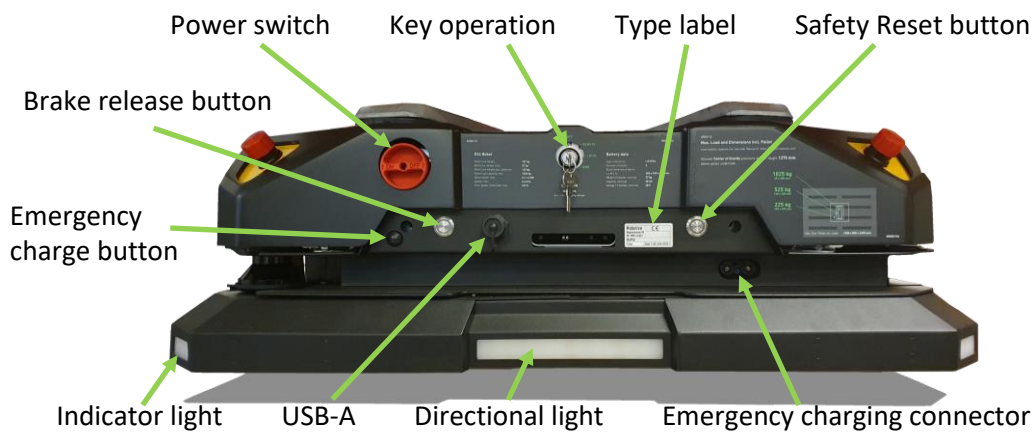
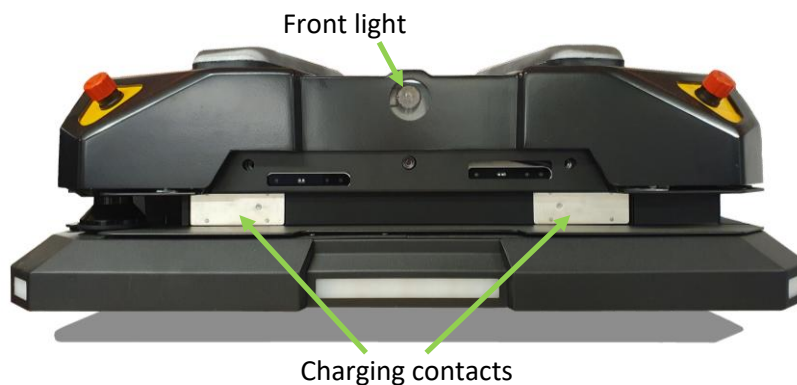

Figure 6 GoPal E24 rear view
Figure 7 GoPal E24 front view
The Safety Reset button (see *Figure 6*) is located at the rear of GoPal. If the mechanical bumper or any of the emergency stop buttons have been triggered, this button must be pressed to reset the safety system of the robot. After holding the Safety Reset button for a minimum of 1 second, GoPal will emit an audible warning signal and flash a light to indicate its active state.
The Brake Release button (see *Figure 6*) is located at the rear of GoPal. To release the robot's brakes, press this button while the key switch is in the "Emg" position. The brakes will remain released as long as the button is pressed, allowing the robot to be moved away from an object if its bumper has been engaged.
The key switch, located at the rear of the robot (see *Figure 6*) is used to control GoPal. The key switch has several positions:
The USB-A interface, located at the robot's rear (see *Figure 6*), is used for maintenance and service activities and configuration settings.
The automatic battery charging connector points are located at the front of GoPal (see *Figure 7*). These connectors are used when GoPal is docked at a Charging Station for charging. An emergency charge connector is located at the rear of GoPal (see *Figure 6*). This connector is typically not used but can be employed if an error prevents GoPal from driving into a Charging Station. The robot will not drive while emergency charging is in progress.
The Emergency Charge Button is located at the rear of the robot (see *Figure 6*). Use this button for emergency charging when the robot's battery is critically low and it is unable to charge, even when connected to charging power.
- Connect the provided DC power cable to the robot's emergency charge connector. (see *Figure 6*)
The GoPal robot is equipped with operating lights (see *Figure 6*) that function in the same way as those on a car. GoPal has white lights at the front, red braking lights at the rear, and orange corner lights that function as indicators when turning.
Additionally, GoPal has a powerful green light installed at the front (see *Figure 7*) illuminating the floor several meters in front of the robot. The purpose of this light is to alert other traffic to an approaching GoPal robot.